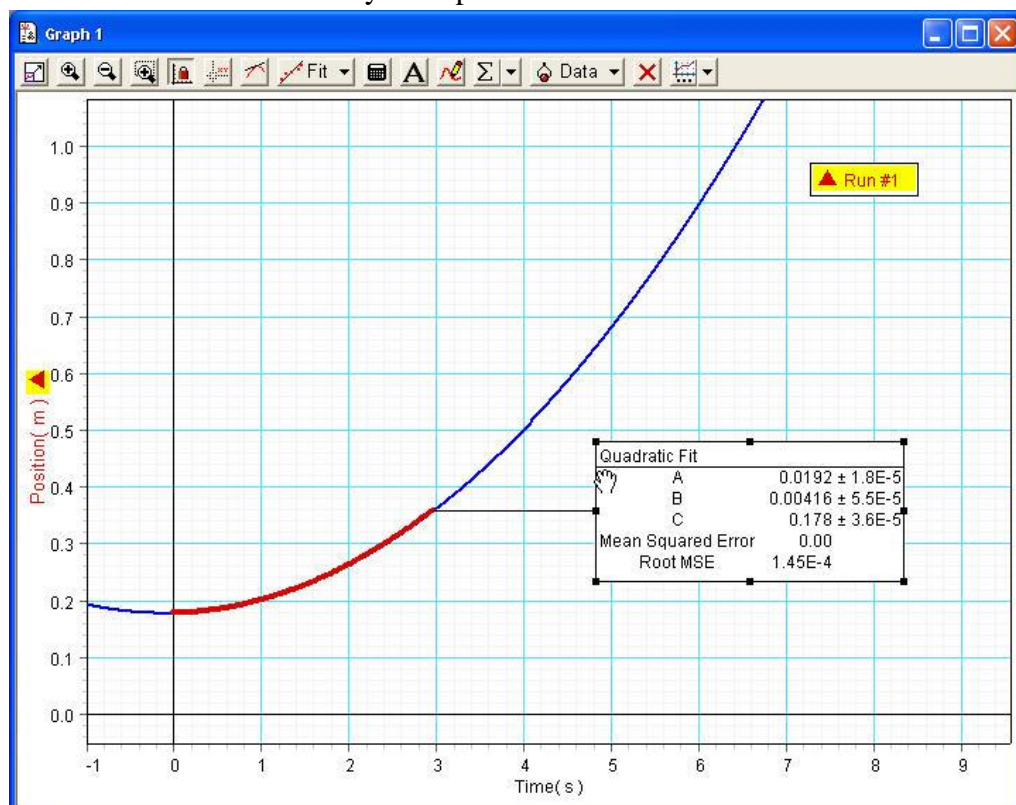

Figure 4
6. Your data will look like the red curve in Figure 4. Click on the *Fit* button in DataStudio and then select *Quadratic Fit*. The blue curve in Figure 5 shows the fit. The fitting parameter *A* is related to the acceleration *a* of the system, through  $a = 2A$ . Note that a perfect quadratic fit would confirm the constant acceleration. Make sure the initial slope (parameter *B*) is zero (or very close to zero), which confirms  $v_0 = 0$ . If not, repeat the experiment. The magnitude of the value of *B* from the quadratic fit should be  $< 0.01$  to ensure initial speed is very close to zero.